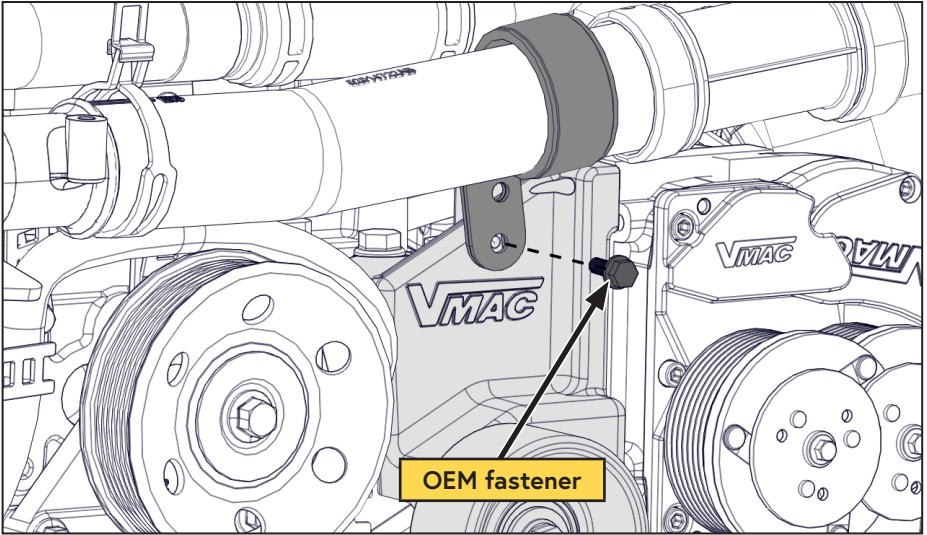

Figure 13 — Mounting the compressor
- Install the radiator tube bracket onto the VMAC main bracket using the OEM M6 fastener (Figure 13).